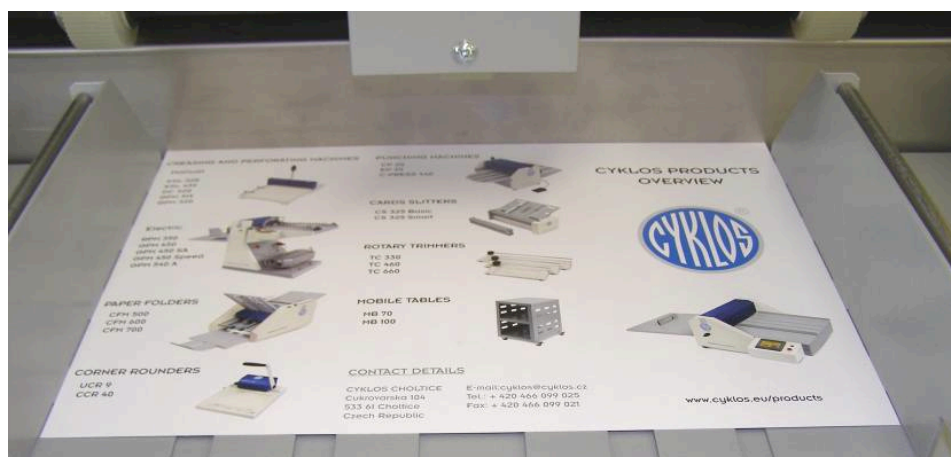

Fig. 7: Correctly prepared table – even placement of the magnetic strips (position 5).
The table automatically locks in the lower position. Tilt the paper brakes (7) outward. Loosen the locking bolts of the side guides (21). Set the front side guides (3) approximately for the paper format size, so that the position of the sheet is symmetrical with the center of the feeding table. Rulers on the feeding table serve for exact adjustment of the side guides (3). Place the magnetic strips (5) on the feeding table between the front side guides (3) – two or four strips (5) according to the paper format. The magnetic strips (5) prevent the paper on the feeding table from corrugating and improve the feeding function (fig. 7).